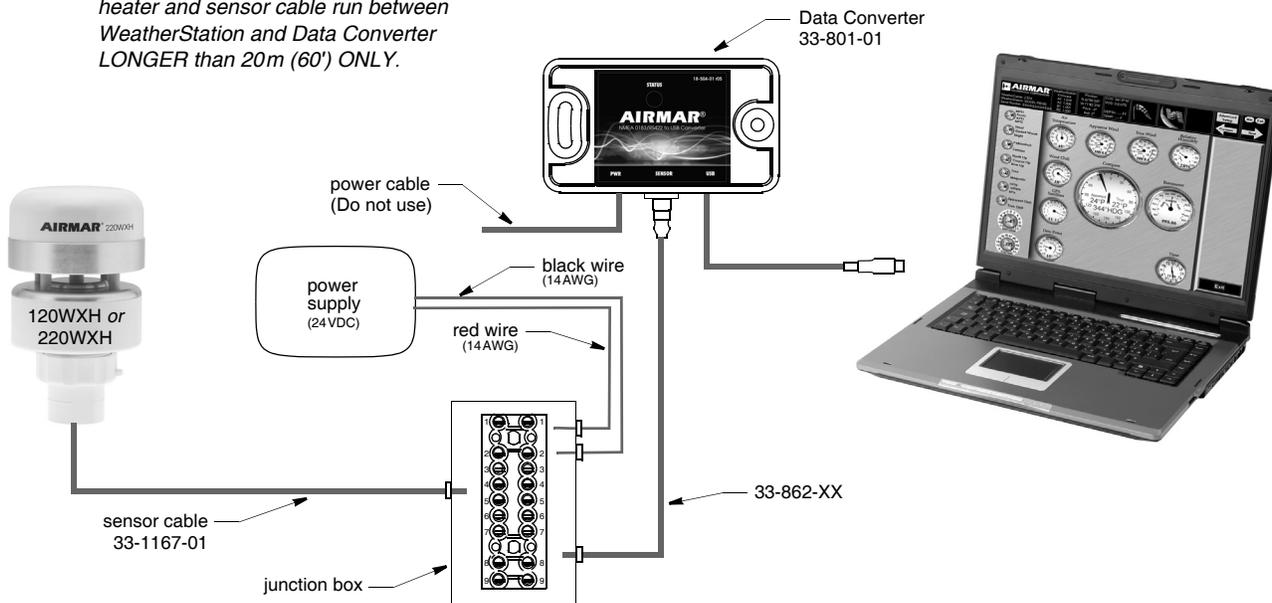

Figure 2. WeatherStation Instrument with heater and sensor cable LONGER than 20m (60') (not to scale)
WeatherStation Instrument with Heater—If the distance between the WeatherStation Instrument and the Data Converter is longer than 20m (60'), use Data Converter 33-801-01 and a junction box (Figure 2).
1. Select a convenient, dry, mounting location for the water-resistant junction box. Locate it no more than 9.5m (30') from the WeatherStation Instrument (Figure 2).
1. Data Converter—The power (PWR) cable will NOT be used (Figure 2). Coil the power cable and secure it with cable ties.